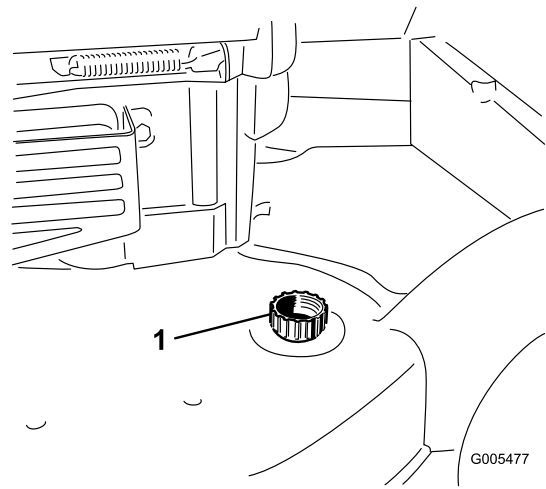

Figure 22
4. Attach a garden hose that is connected to a water supply to the washout port on the machine (Figure 22).